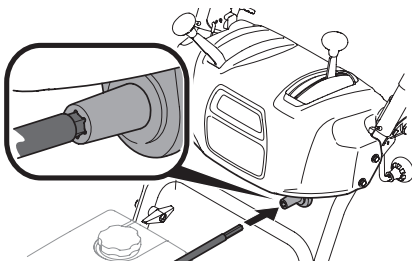

Figure 24
- Models with Overhead Rotational - Insert hex end of flex shaft into chute control rod coupling under handle panel (Figure 24).